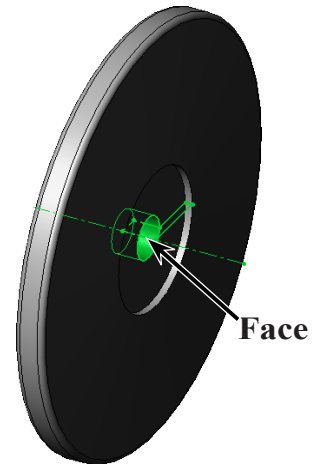

Fig. 16
click OK , Fig. 16.
Step 1. Click the **inside cylindrical face of axle hole** to select it, Fig. 16.